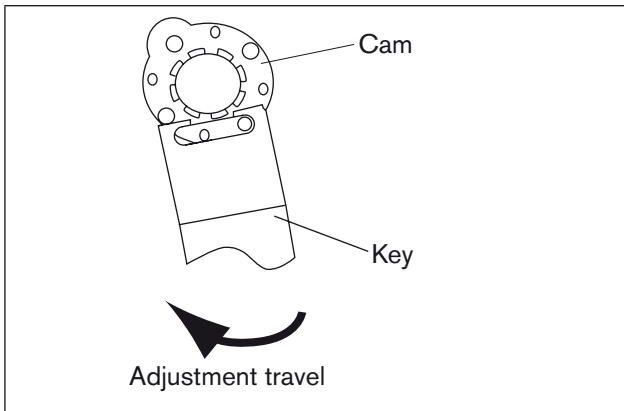
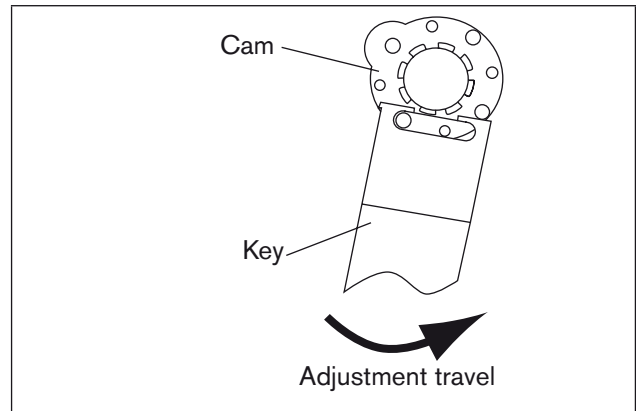

Fig. 13: Adjusting limit switch clockwise
Fig. 14: Adjusting limit switch anti-clockwise
- Adjust the two upper cams with a suitable key (see Fig. 13: Adjusting limit switch clockwise and Fig. 14: Adjusting limit switch anti-clockwise).